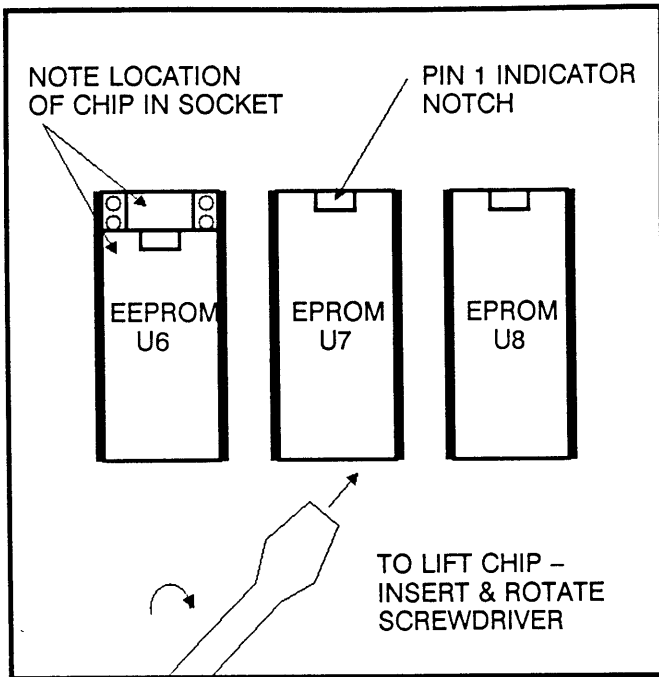

Figure D-1: Memory Chip Location
There are three memory chips, U6, U7 and U8, mounted in sockets on the CPU40 Board which define the personality of the controller. The memory chips at locations U7 and U8 (See **Figure D-1**) store the program which the CPU40 runs. Periodically the program will change to improve operation or add features. These program changes can be added to existing controllers by changing the memory chips at U7 and U8. The label on each EPROM chip has the name of the program stored within (XPRT4-TD12 A or B), the location (U7 or U8) and the revision date. The later the date, the more current the revision.
The third memory chip located at U6 (See **Figure D-1**) is an EEPROM (E Squared PROM). It stores the settings, schedules, configuration, communication parameters and sensor names entered by the user of the XPRT4 controller. Since this chip does not need power to retain the stored values, it may be moved from one XPRT4-TD12 to another XPRT4-TD12 with a compatible revision level to transfer the settings. Check the paperwork from the new memory chips for compatibility eligibility. This feature is also very useful when starting up a controller lacking communications. See **Section C, System Start-Up Procedure**.
- i) Before removing, note the chip's location in its socket on the board. The chip in U6 is a 24 pin chip in a 28 pin socket and will be placed in its socket as shown in **Figure D-1**. The chips in U7 and U8 are 28 pin chips in 28 pin sockets as shown in **Figure D-1**.
- i) Place the chip over the socket with the Pin 1 Indicator notch (see **Figure D-1**) at the top.